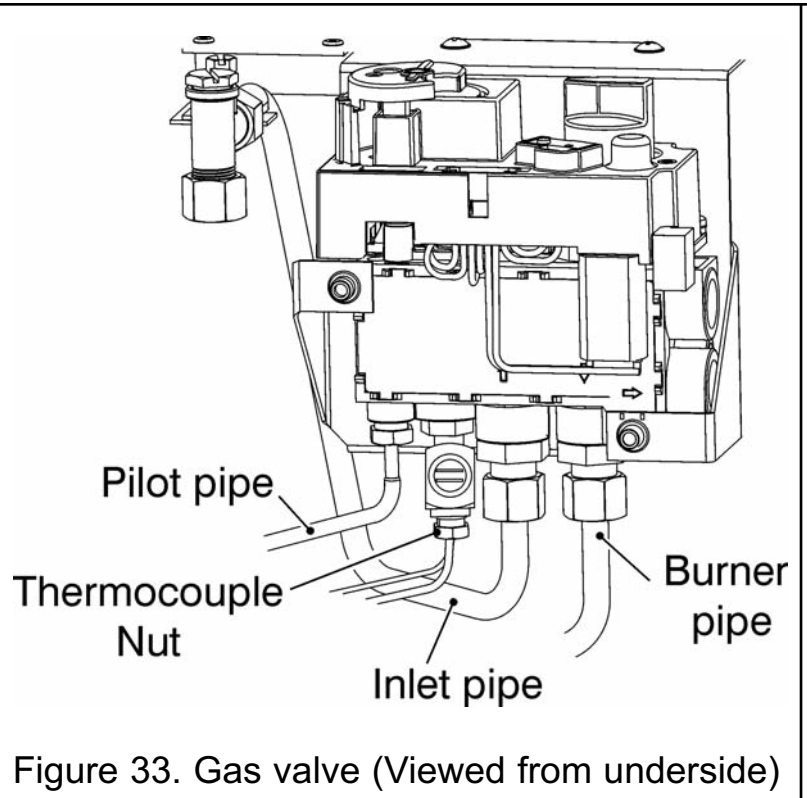

Figure 33. Gas valve (Viewed from underside)
4. Detach the thermocouple by unscrewing the thermocouple nut at the interrupter block (See figure 33).
(See figure 33).